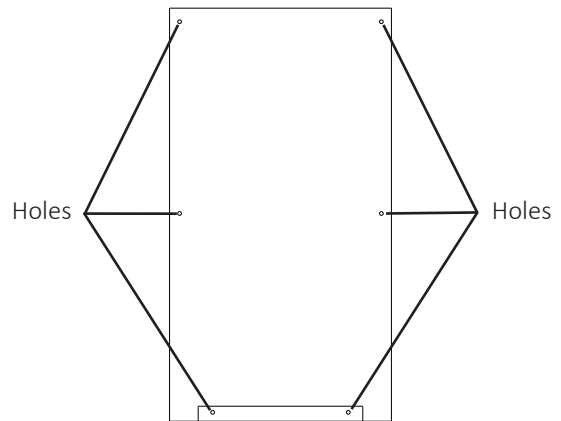

Fig. 2
See "(A) Threaded Inserts" and "(B) Threaded Inserts" in the specification diagram and Fig. 2.